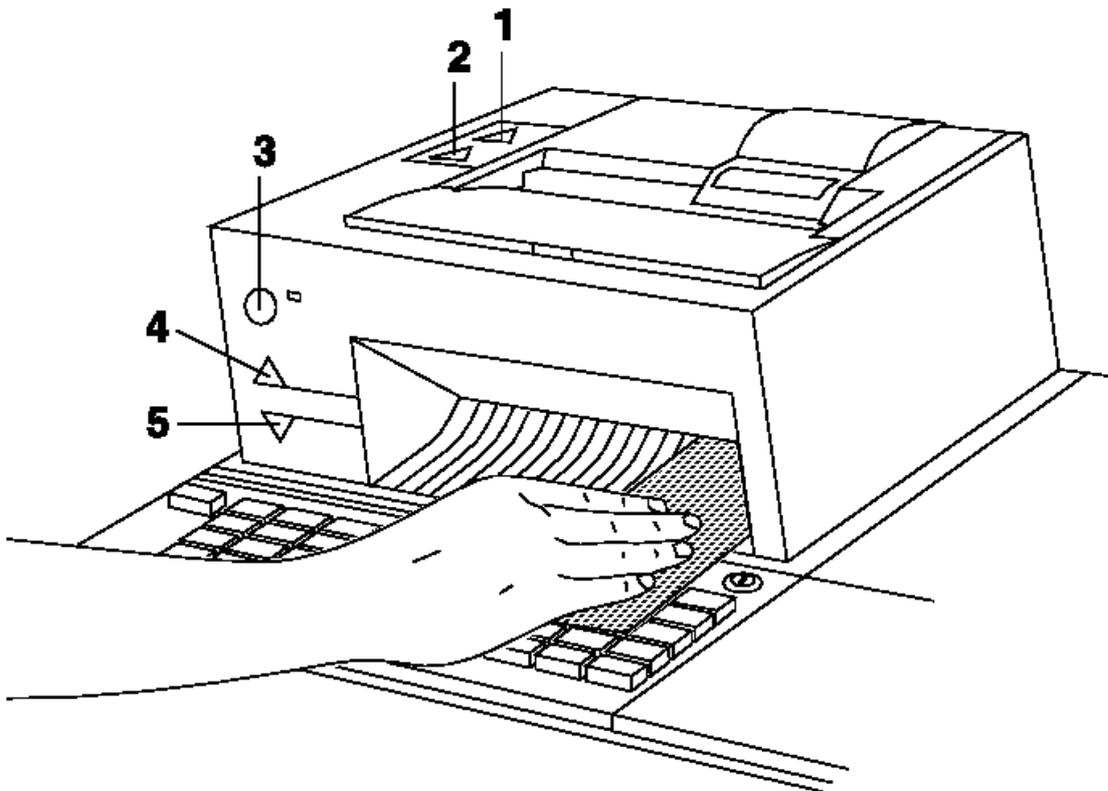

Figure 6-5. Inserting a Head Cleaner in Models 3R and 4R Printer
3. See Figure 6-5 and press button (4) until the cleaner appears at the top of the printer.
4. Press button (5) until the cleaner appears at the bottom of the printer.
7. Press button (5) to feed the cleaner out the bottom of the printer.